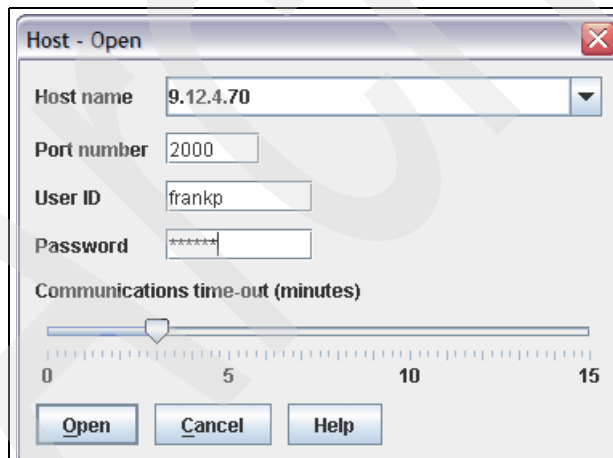

Figure 3-14 OSA/SF Workstation Interface - Logon
OSA/SF includes a graphical user interface (GUI) and a REXX™ interface. The OSA/SF GUI runs on Windows and Linux software that have graphics and Java™ 1.4 support. From a single OSA/SF GUI, you can establish connections to all server images that have OSA/SF running. This potentially allows you to have centralized control of OSA-Express2 features that span server boundaries, as shown in Figure 3-14 on page 82.
1. From a Windows workstation, start a DOS session and issue the command **java ioajava** to start the OSA/SF GUI. Log on to OSA/SF as shown in Figure 3-14.